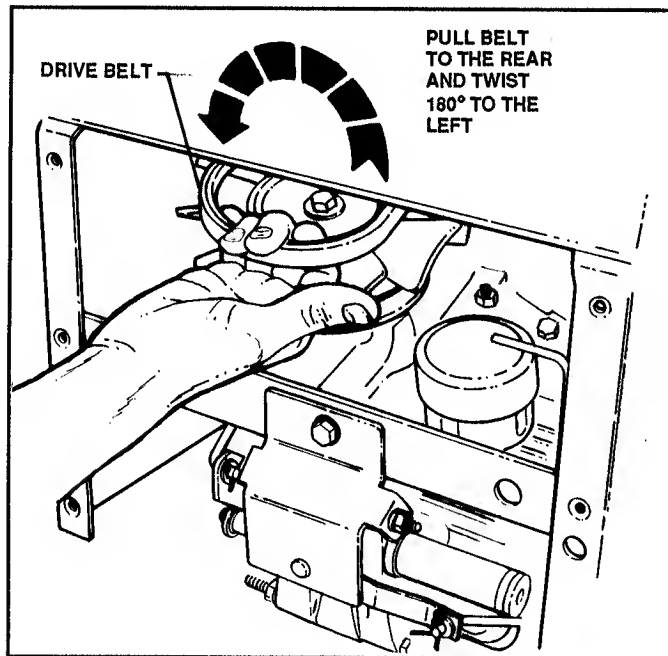

FIGURE 38
4. Reaching in from rear of tractor, grab belt underhanded and twist belt 180° to the left (counterclockwise). See Figure 38.